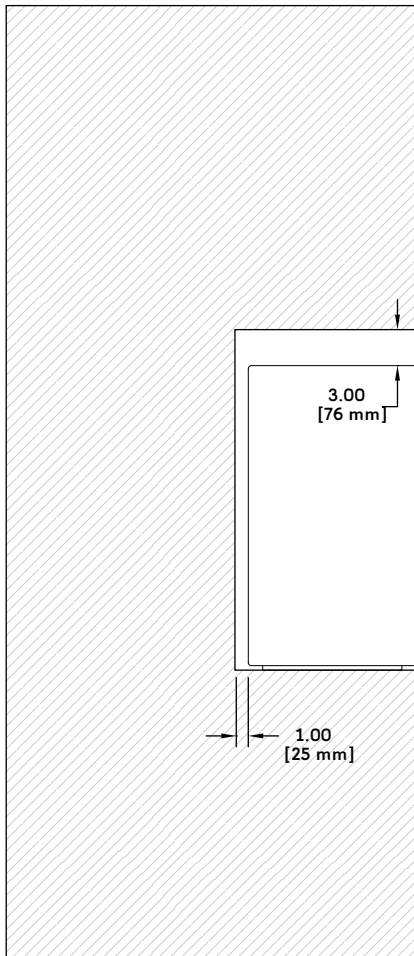

Figure 3: Acheron Designer Mounted in Soffit, 1" Behind and 3" Above Loudspeaker for Ventilation
- When installing the Acheron Designer in a soffit with the loudspeaker 1 inch from the back of the soffit (see Figure 3), allow at least 3 inches above the loudspeaker for ventilation.